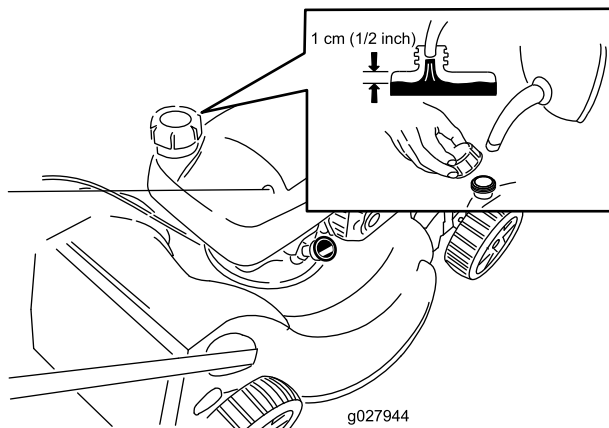

Figure 15
- Clean around the fuel-tank cap, and remove the cap from the tank (Figure 15).